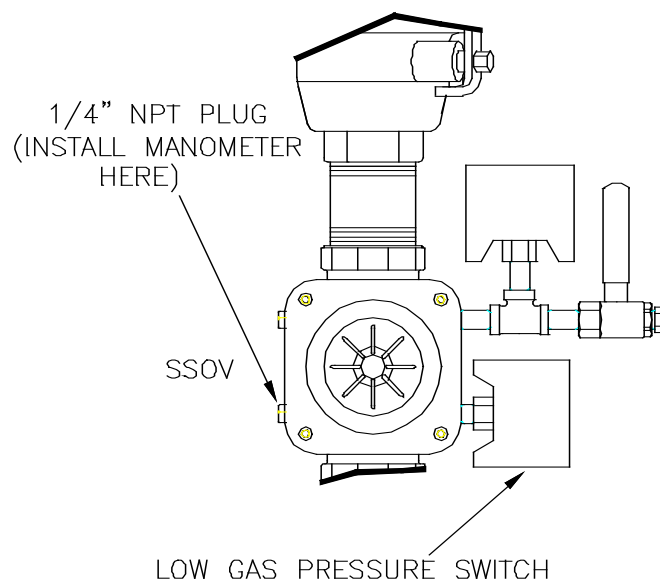

Figure 6.1
1. Referring to figure 6.1, ensure that the 1/4" ball valve located at the low-pressure gas switch is closed.